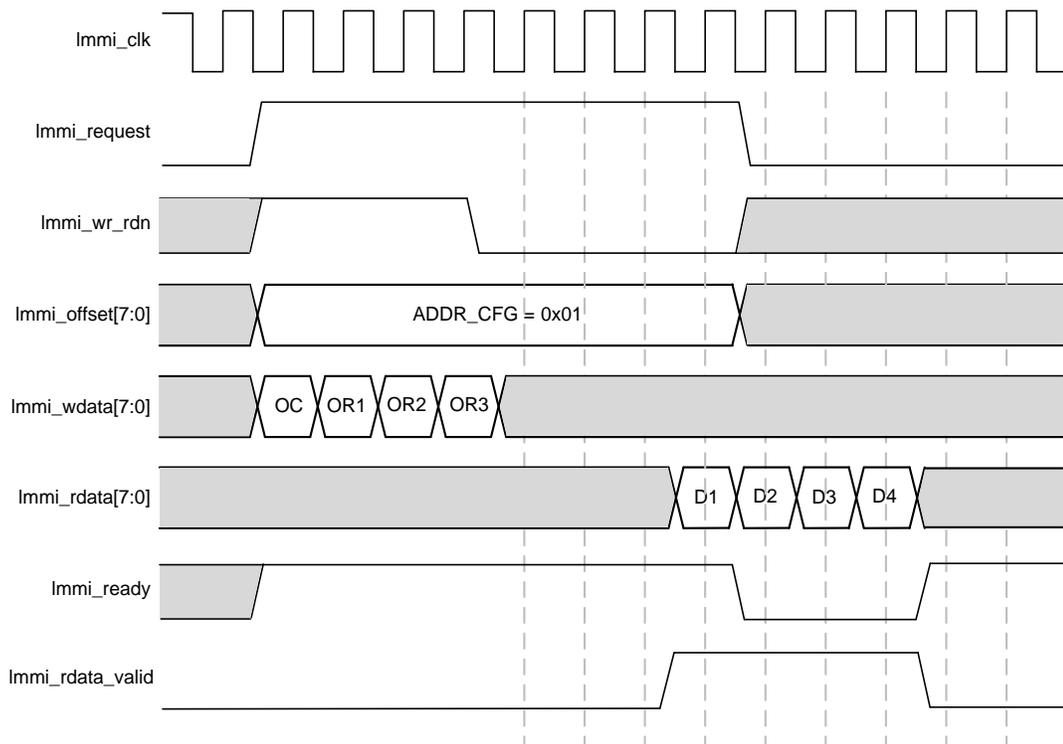
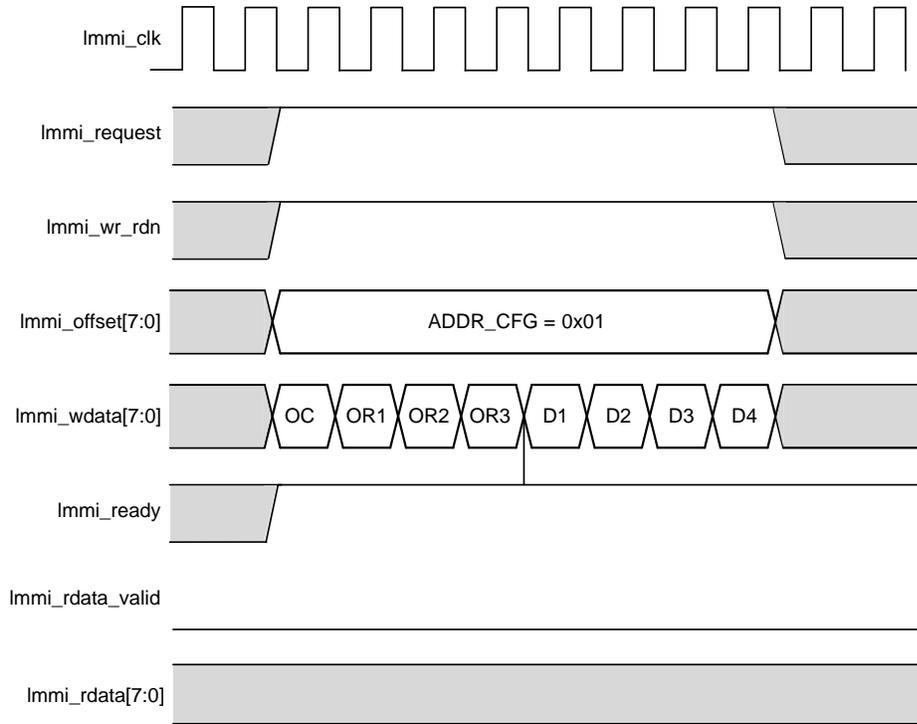
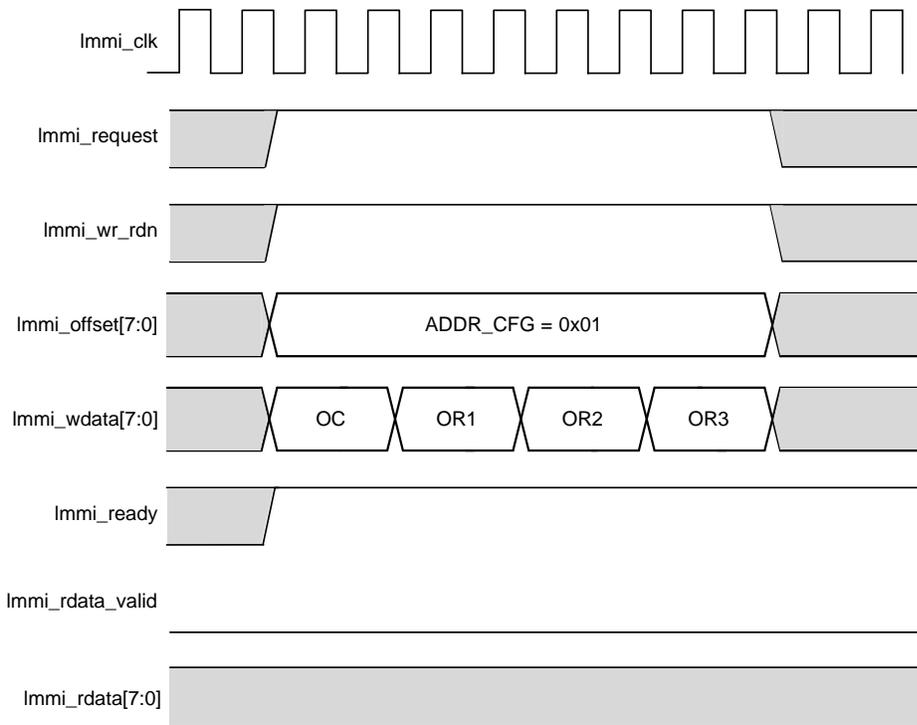

Figure D.3. LMMI Class A Commands Execution
Figure D.4. LMMI Class B Commands Execution
Figure D.5. LMMI Class C Commands Execution
The CONFIG_LMMI(A) primitive has a hardware assigned `Immi_offset` with `ADDR_CFG=0x01`. To execute slave configuration command, LMMI host should perform four back-to-back write transfers: 1 byte Opcode (OC), 3 bytes Operands, which are OPERAND1 – OPERAND3 (OR1 –OR3), followed by the optional data bytes. The Class A command, Class B command, and Class C command execution are demonstrated in Figure D.3, Figure D.4, and Figure D.5.